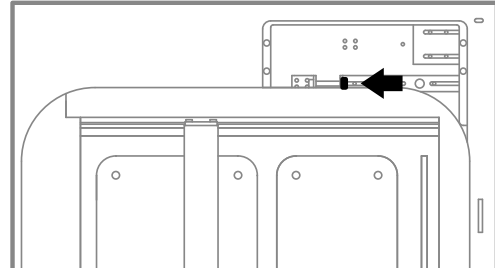

Fig. 13.69 Screw the marked bolt with a torque wrench.
12. Through the inspection opening on the right side of the printer tighten the bolt marked with a torque wrench (fig. 13.69). Tighten the cord for a value of $20 \pm 0,5$ Ncm.